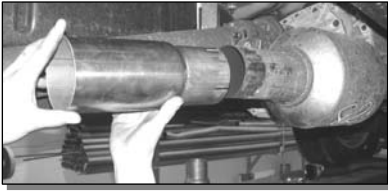

Figure 2
1. Install the **Extension Pipe** over the catalytic converter. **See Figure 2.**